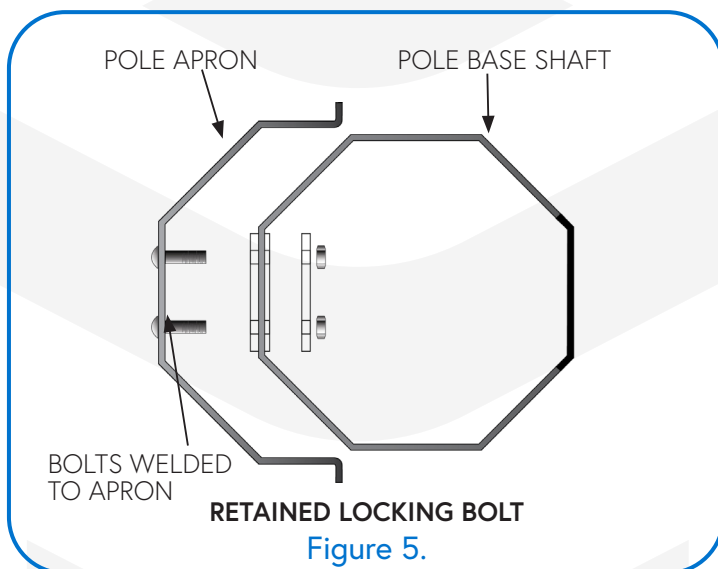

Figure 5.
- a. Apron retaining bolt(s) will be removed by accessing the nuts from within the pole for poles that have **retained locking bolt(s)** *Refer Figure 5*. Note that a loose washer plate may be associated with the retaining nuts, or